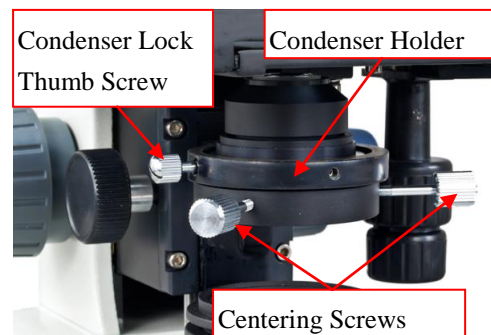

Fig.14
- Install the oil darkfield condensers and tighten the condenser lock thumb screw on the condenser holder (see **Fig. 14**).